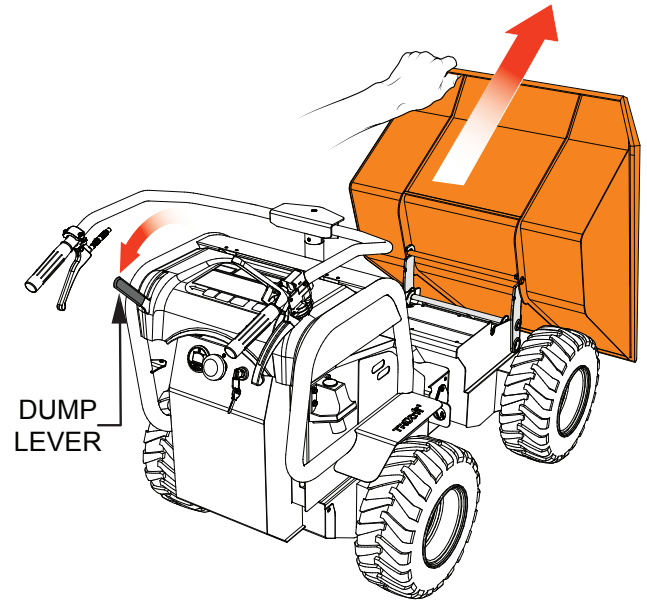

Figure 30. Tub Vertical Position
1. To place the tub in the dump position (Figure 30) pull back on the dump lever and release. The tub will automatically rotate to the vertical position and dump its contents.